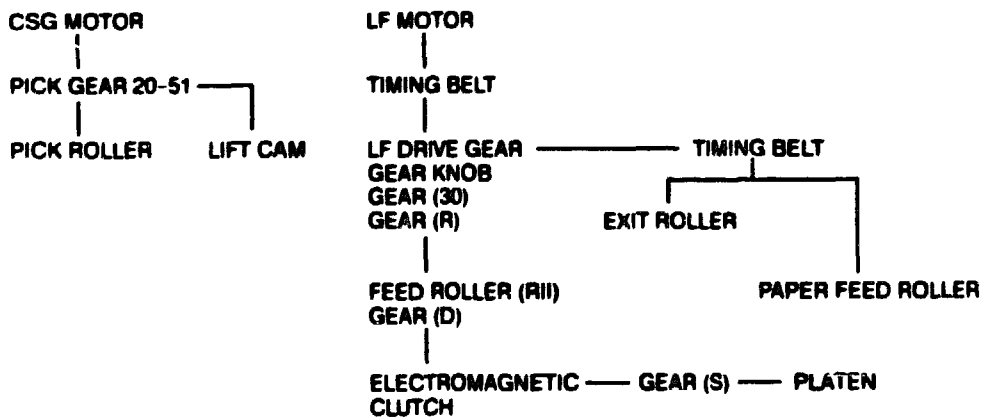

Figure 1-3 Paper Feed Subassemblies
As shown in Figure 1-3, the paper feed mechanism is functionally divided into two submechanisms that are driven by the cut sheet guide (CSG) motor and the line feed (LF) motor.